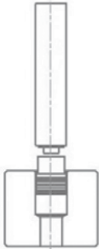

Fig. 2
- / With the pin facing out, the KOENIG CHECK VALVE® is inserted in the counterbored hole (Fig. 2). The top surface of the sleeve should not be above the top surface of the base material.